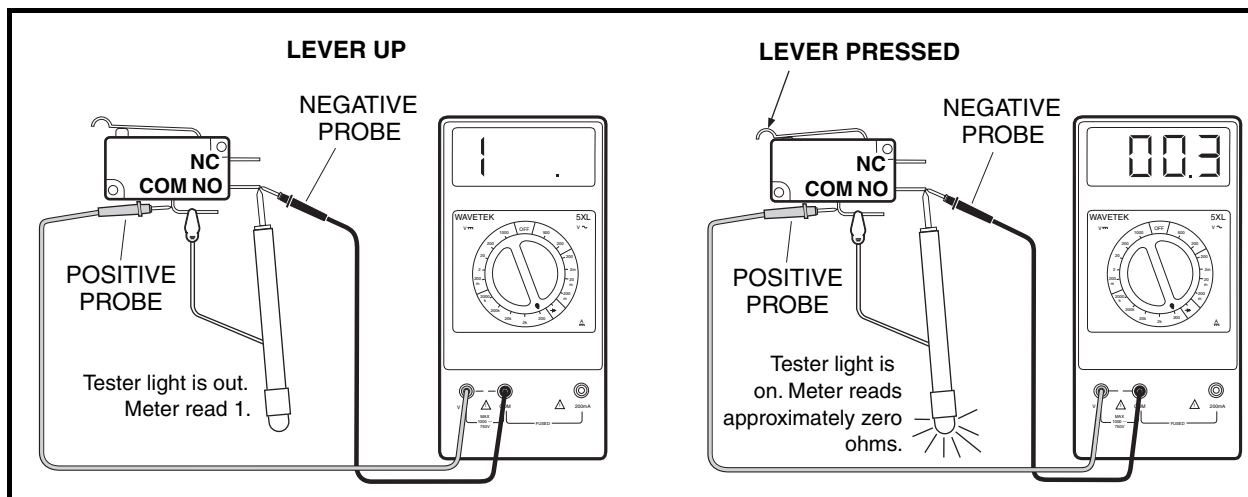

Figure 11-18 Test Neutral Lockout Switch
3. Set the multimeter to 200 ohms. Place the red (+) probe of the multimeter on the common (COM) terminal of the limit switch. Place the black (–) probe on the normally open (NO) terminal of the switch. Without the lever pressed, the reading should be no continuity. Press the lever, and the reading should be continuity. If either reading is incorrect, replace the limit switch (**Figure 11-18, Page 11-20**).